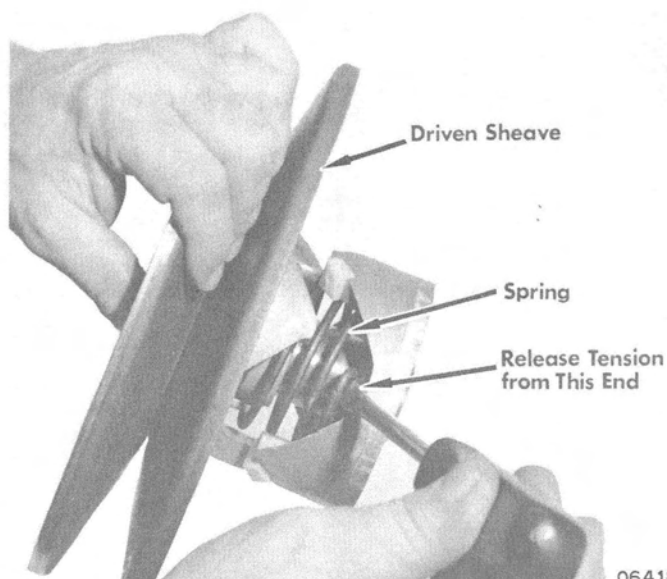

**Figure 1. Removing Sheave**
3. Hold vehicle brake and remove driven sheave retaining bolt. (Figure 1)